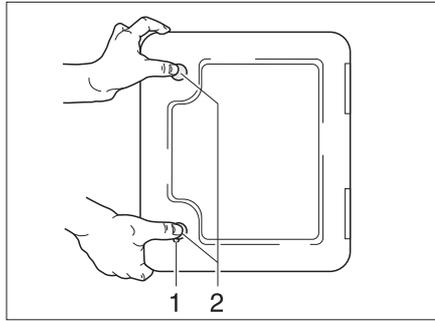

Fig. 163 Flap for the toilet cassette
- Open the flap for the cassette on the outside of the vehicle. Insert the key into the locking cylinder of the push-button lock (Fig. 163,1) and turn a quarter turn.
- Press both push-button locks (Fig. 163,2) simultaneously with your thumb and open the flap for the cassette.